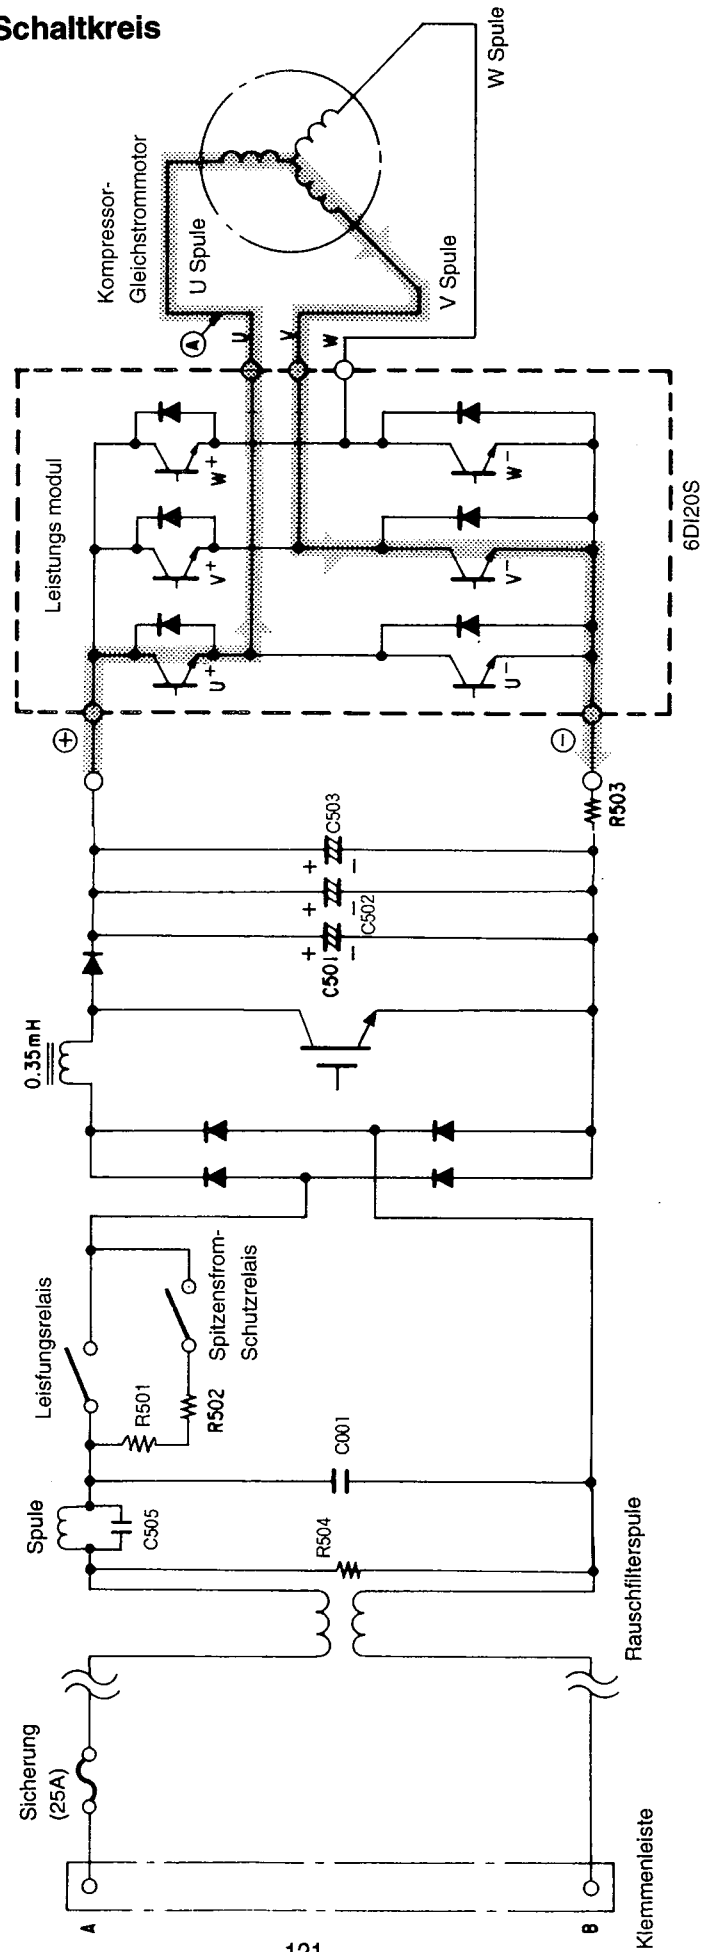

Abb. 3-1 Leistungsmodul-Schaltkreis (U⁺ is EIN, V⁻ is AUS)
- * At point E: U⁺ is ON, V⁻ is ON (circuit in Fig. 3-1)